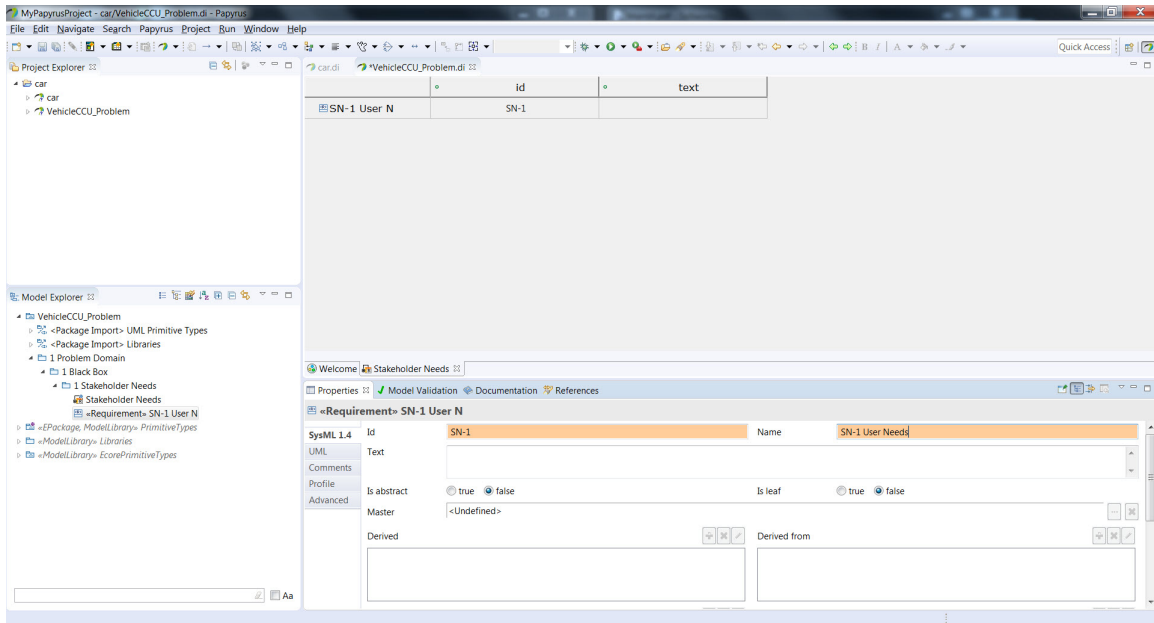

Figure 13: User Needs
6. Type *SN-1* in the *Id* field and *SN-1 User Needs* in the *Name* field. We will not enter anything in the *Text* field as this will be a heading for our user needs (figure 13).